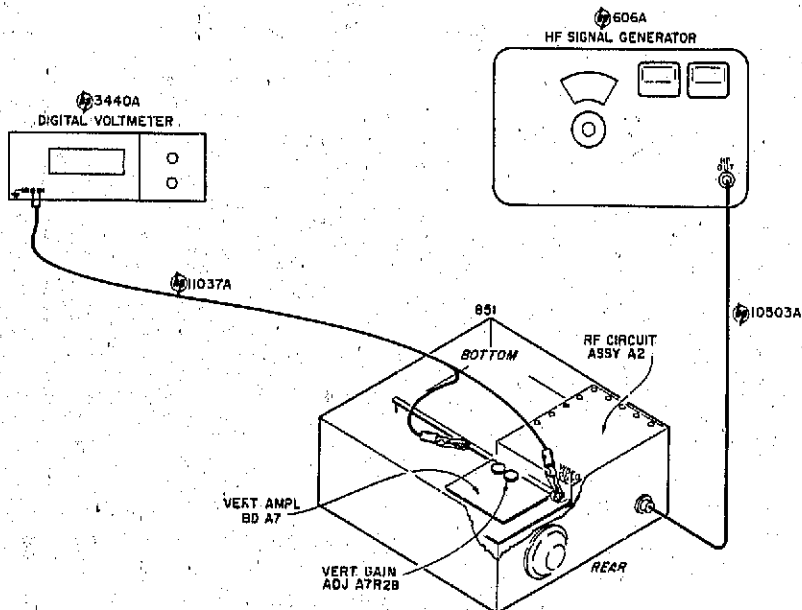

Figure 5-9. Vertical Amplifier Calibration Setup
b. Set up equipment as shown in Figure 5-9. Connect voltmeter (digital with automatic range-finding capability) at feed-thru terminal (Video Out) at output of RF Circuit Assembly A2. This terminal projects through the casting that encloses Assembly A2, and is identified in Figure 5-9.
- b. Adjust Vert Gain Adj A7R28 (see Figure 5-9) for 6.0-cm vertical deflection on CRT.